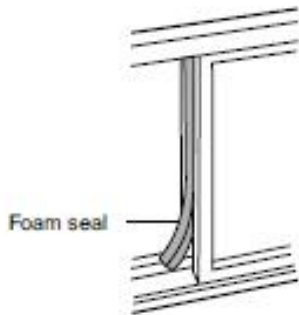

Fig. 16
- 5) Cut the foam seal to an appropriate length to seal the open gap between the sliding sash and outer window sash. See Fig. 16.